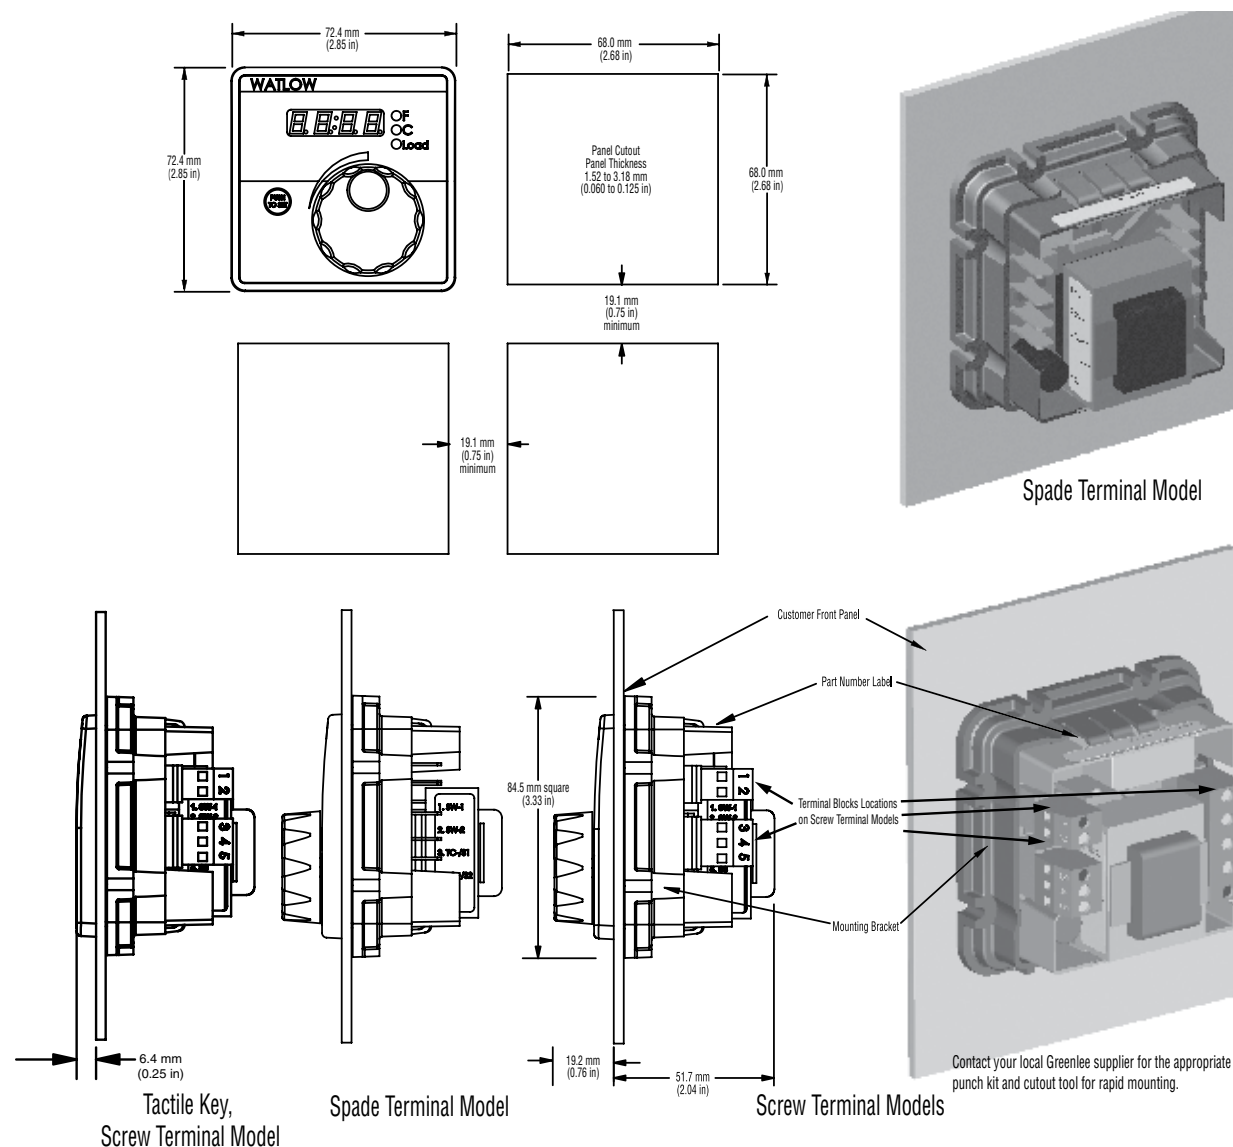

Figure 4
4. While pressing the front of the case firmly against the panel, slide the mounting collar over the back of the control. The tabs on the collar must line up with the mounting ridges on the case for secure installation. See Figure 4. Slide the collar firmly against the back of the panel, getting it as tight as possible. To ensure a tight seal, use your thumb to lock the tabs into place while pressing the case from side to side. Don't be afraid to apply enough pressure to install the controller. The tabs on each side of the collar have teeth that latch into the ridges. Each tooth is staggered at a different height, so only one of the tabs on each side are ever locked into the ridges at a time. Confirm that the tabs on one side of the collar correspond with those on the opposite side. Make sure the two corresponding tabs are the only ones locked in the ridges at the same time. If the corresponding tabs are not supporting the case at the same time, you will not have a NEMA 4X seal.